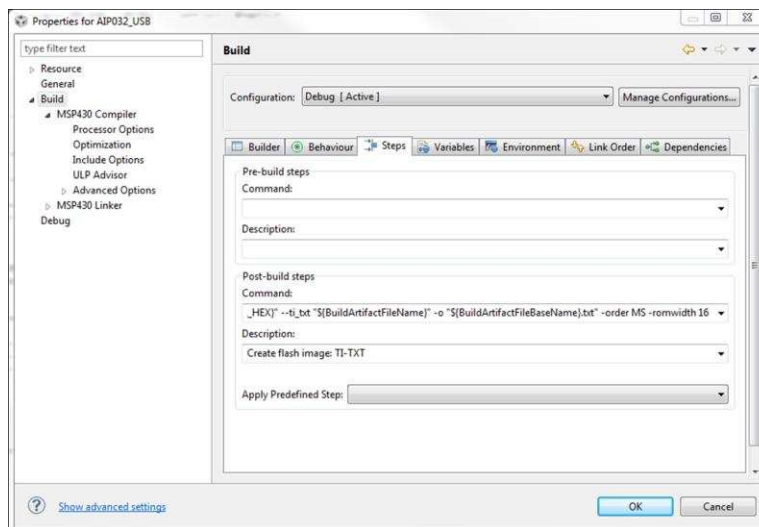

Figure 12. CCS Create Flash Image
1. Open the firmware project in CCS and go to the build menu of the properties window as shown in Figure 12.
2. Under the *Steps* tab of the build menu and in the *Apply Predefined Step* drop-down, select *Create flash image: TI-TXT* as shown in Figure 12.